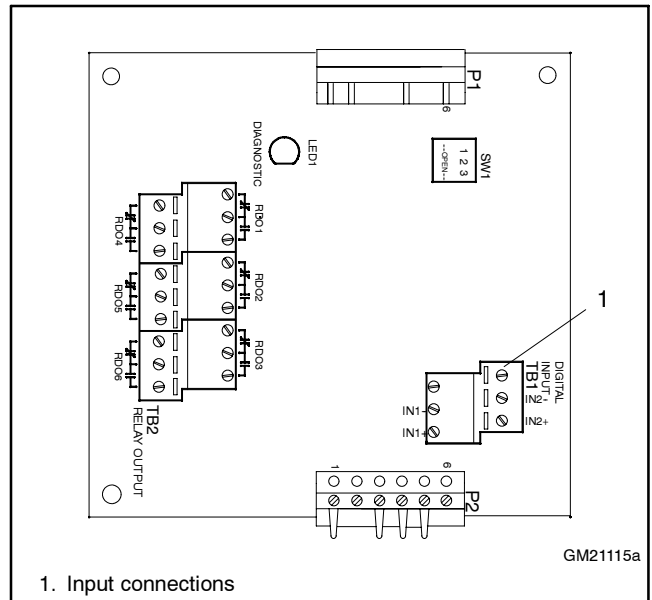

Figure 7 I/O Module Input Connections
- b. Connect to an available input terminal on an input/output (I/O) module. See Figure 7. I/O modules are optional equipment. Refer to the instructions provided with the I/O module kit or the transfer switch operation and installation manual.